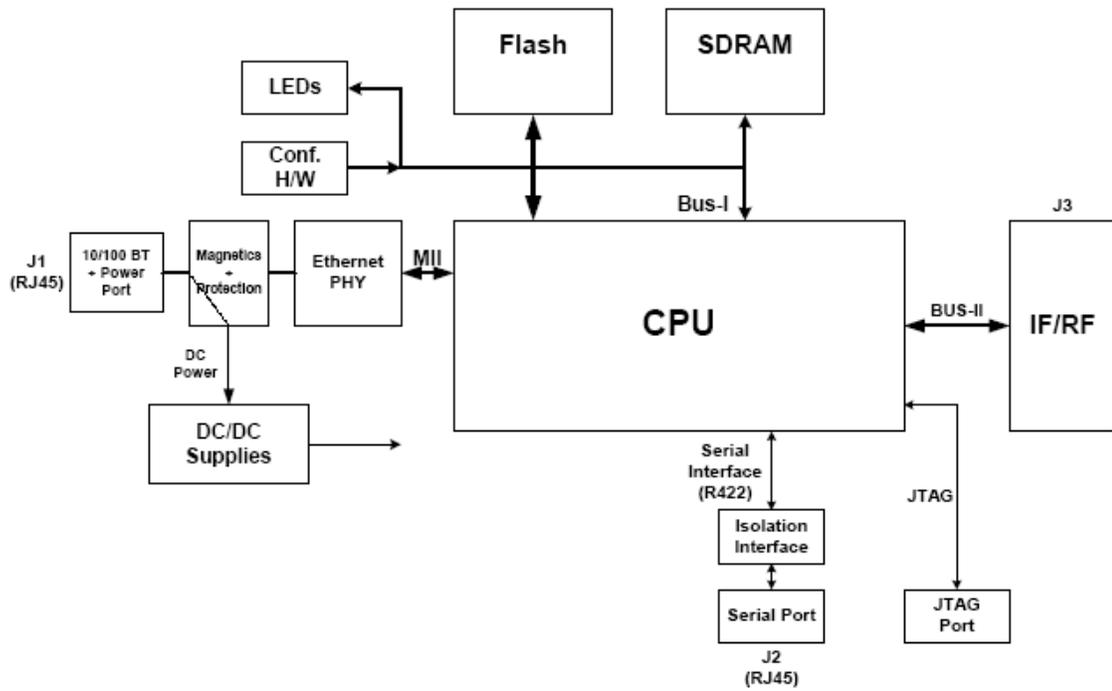

Figure 1-7. ODU Block Diagram
- **Outdoor Unit (ODU):** An enclosed aluminum frame with a front sealed plastic cover, containing an integrated transceiver with an antenna, RF module, modem and standard interfaces. The ODU stores all the configuration parameters of the Intrepid Series system. *Figure 1-7* shows the ODU block diagram.